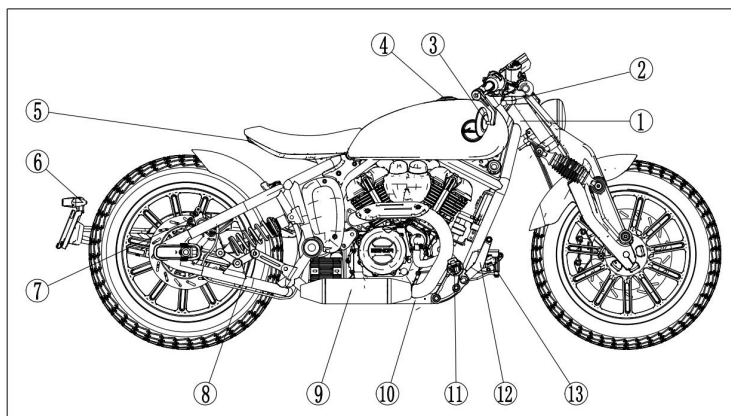

Figure 3
2. Right vehicle body (Figure 3)